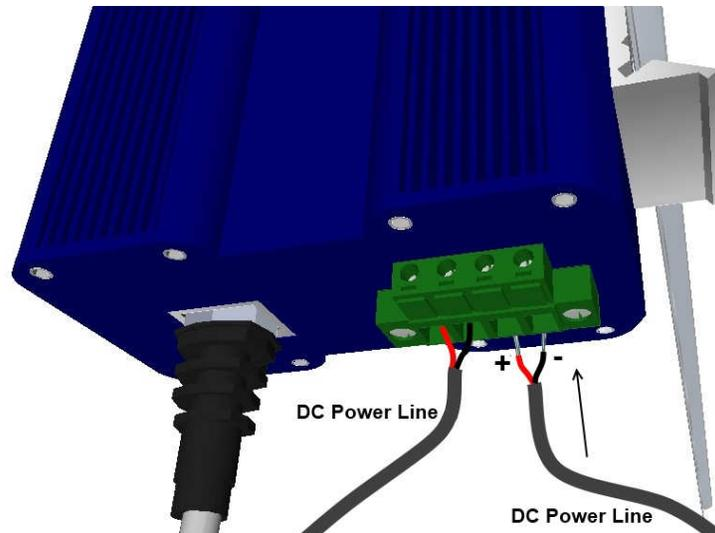

Figure 2.4.5 – Insert another power line
6. Insert another pair of DC power line into the terminal strip as shown on the Fig. 2.4.5 in order to connect to the next AIA1801-200-04 unit.